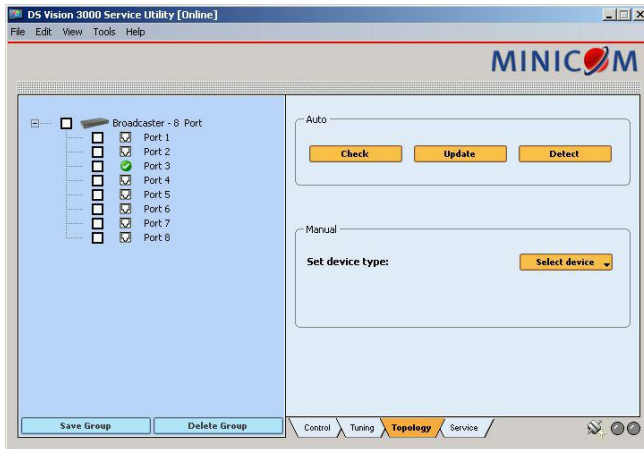

Figure 29 Manually displayed topology
2. Select the connected Transmitter/Broadcaster. The selected topology appears on the left, see Figure 29. If the Service Utility is online you can see which ports have devices connected. In Figure 29 a device is connected to port 6.